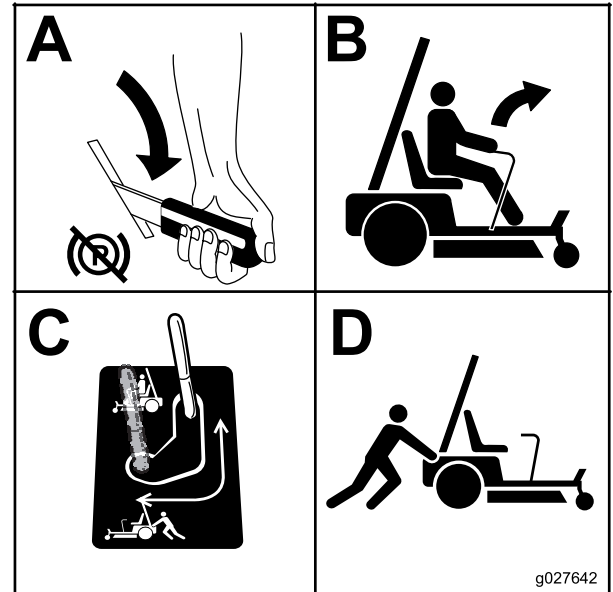

Figure 27
5. Move the bypass levers rearward and then down to lock them in place as shown in Figure 27 to disengage the wheel motors.
Move the bypass to the position for operating the machine (Figure 27) to engage the wheel motors.